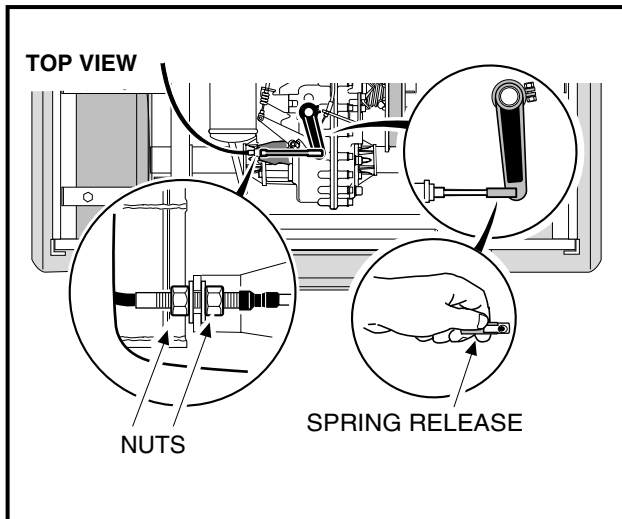

Figure 16-52 Connect Shifter Cable
- 27.5. Position the shifter cable in the shifter cable mounting bracket on the transaxle and tighten the mounting nuts to 22 ft-lb (29.8 N·m). Connect shifter cable rod end to the shifter arm (**Figure 16-52, Page 16-21**).